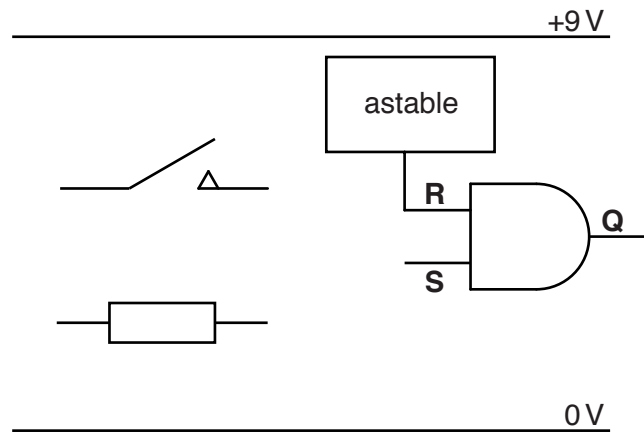

Fig. 15
- (vi) Complete Fig. 15 to show how input **S** can be at a normal level of 0V but change to +9V when the PTM switch is closed.